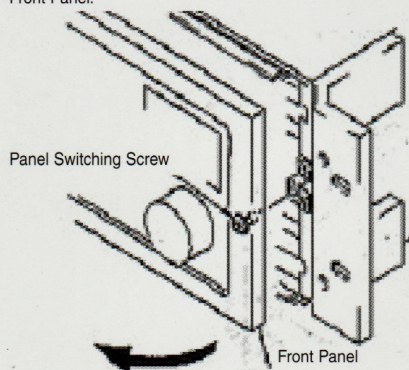
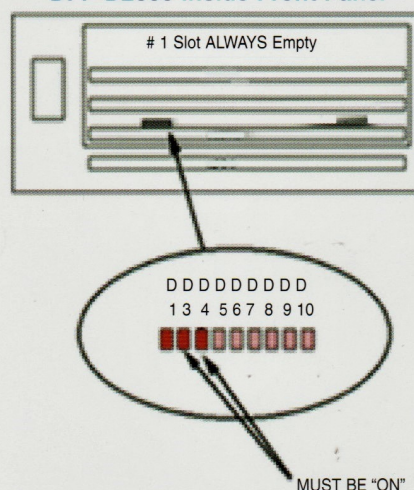

Figure 4
Figure 5
- Open the front panel of the SDDS Decoder (DFP-D2000), refer to Figure 4, and verify that the "S" & "P" data OK LEDs inside the processor are illuminated steadily, refer to Figure 5.